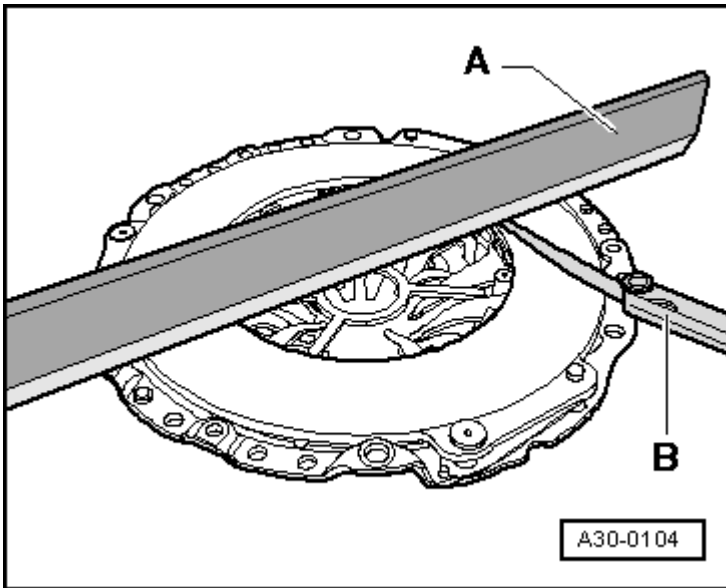

Fig. 7: Checking SAC Pressure Plate For Warpage, Cracks And Burns
Check the clutch pressure plate for deformation; refer to Fig. 7.
- Pressure plate, checking for distortion, refer to **Fig. 7**